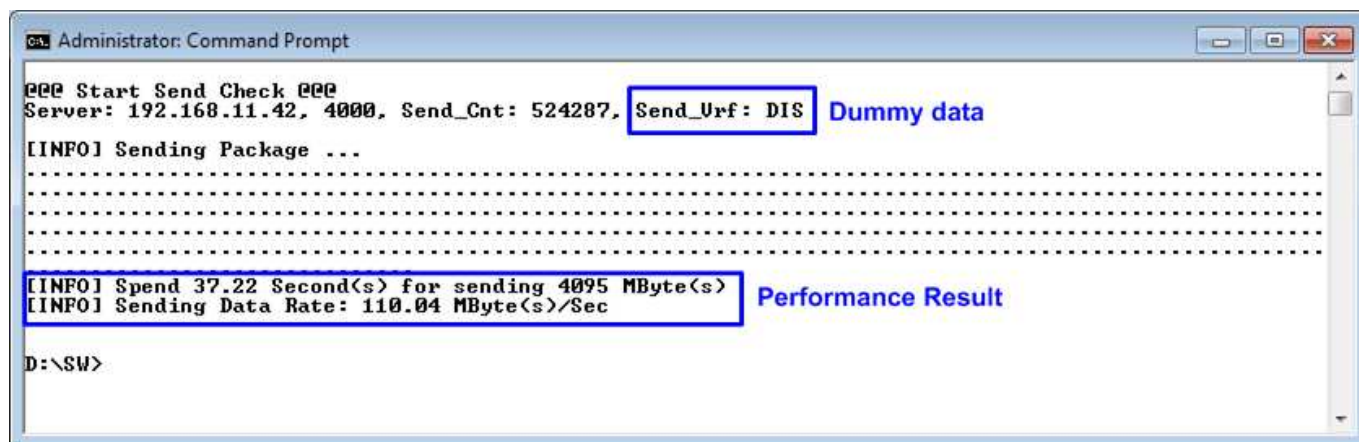

Figure 4-13 Test performance of “send_udp_client” when disable verification
- Test application displays “...” during transferring packet. Time usage with performance will be displayed when complete data transfer, as shown in Figure 4-13.